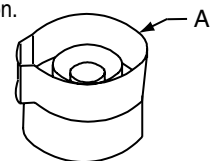

Figure 5
- ① The upper (raised) position is pre-set at the factory.
- ② The upper plastic ring (A) controls the "down" position. Should this need to be adjusted, simply rotate clockwise for more travel and counterclockwise for less travel (see Fig. 5).